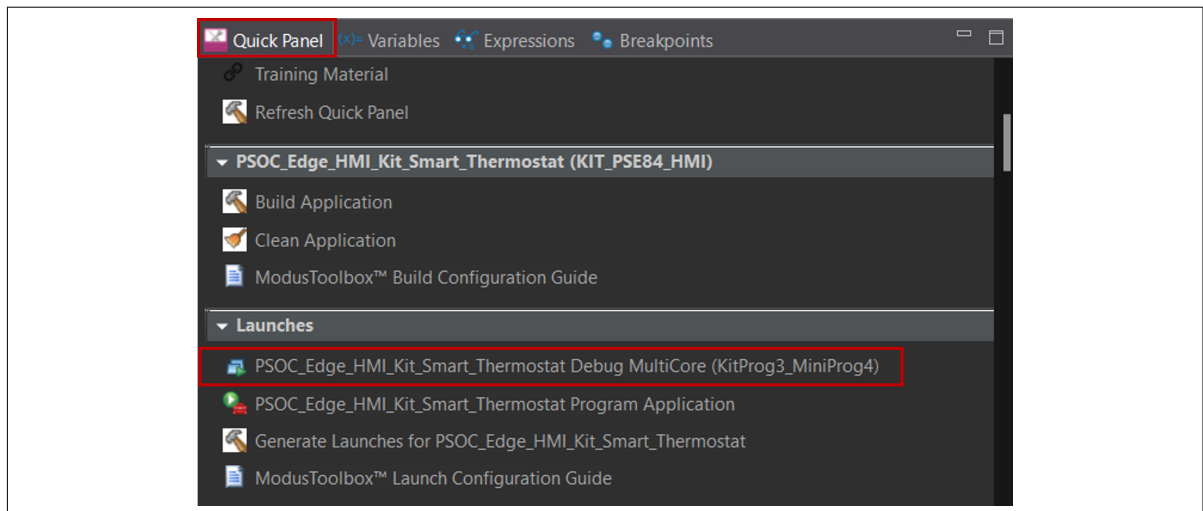

Figure 48 Debugging in ModusToolbox™
5. ModusToolbox™ has an integrated debugger. To debug a PSOC™ Edge E84 MCU application in the Project Explorer, select the project. In the Quick Panel, scroll to the Launches section and click the **Debug MultiCore (KitProg3_MiniProg4)** configuration as shown in the following Figure 48. For detailed explanation on how to debug using ModusToolbox™, see **Help > Eclipse for ModusToolbox™ IDE Documentation > User Guide**.